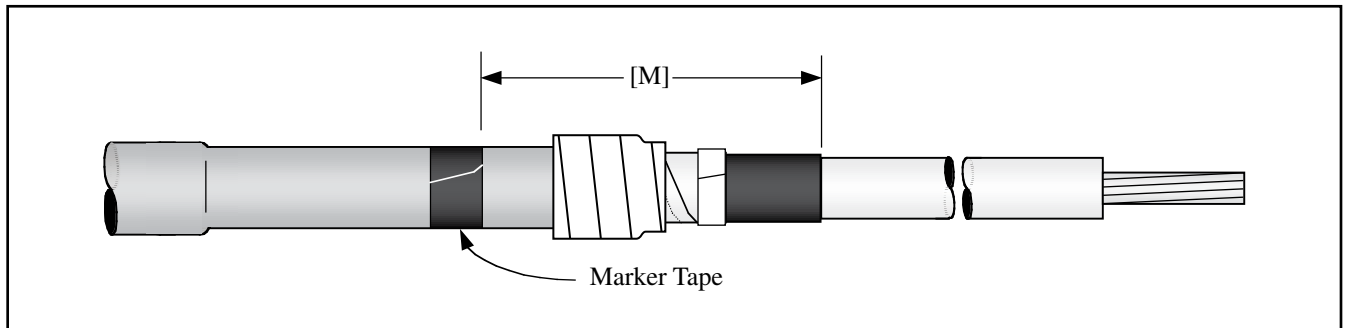

Figure 12
5.4 Place a termination installation marker tape at position [M] (Figure 12).